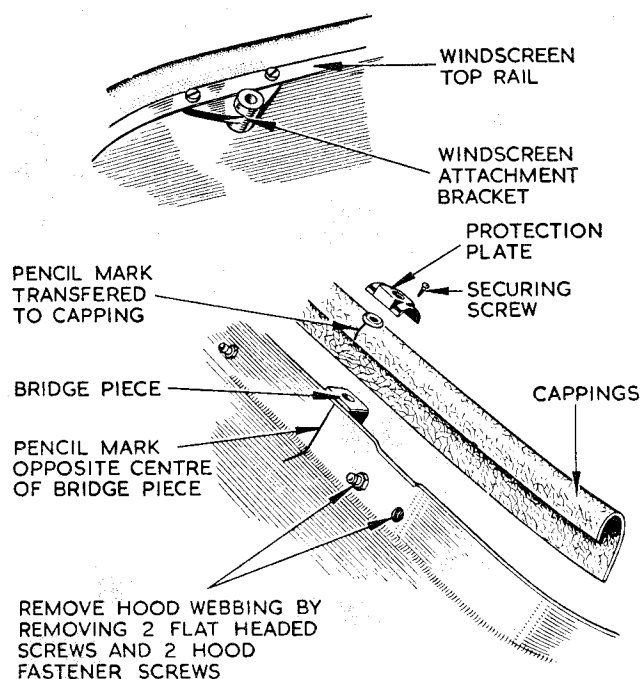

Fig. 1 Marking and fitting Rear Cappings.
- (b) Release the hood webbing at the rear by removing the two flat headed screws and the two hood fastener screws. (Fig. 1.)
- (d) Remove the windscreen attachment brackets from the "Hard Top" and finally secure to the underside of the windscreen top rail by six chromium plated screws and lock washers. (Fig. 1.)